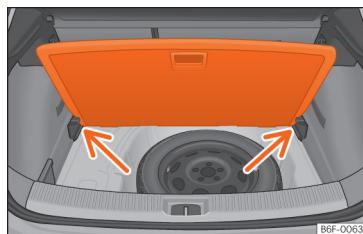

Fig. 145 Variable boot floor: tilted position.
- Rest the floor on its housings »» Fig. 145 (arrows).